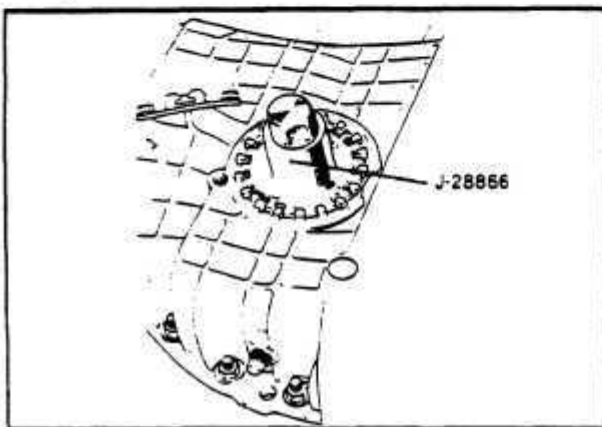

Fig. 24 DIFFERENTIAL ADJUSTING NUT TOOL
7. Unscrew the adjusting nut using tool J28866. **COUNT THE NUMBER OF TURNS REQUIRED TO DISENGAGE THE THREADS.** *Fig. 24*